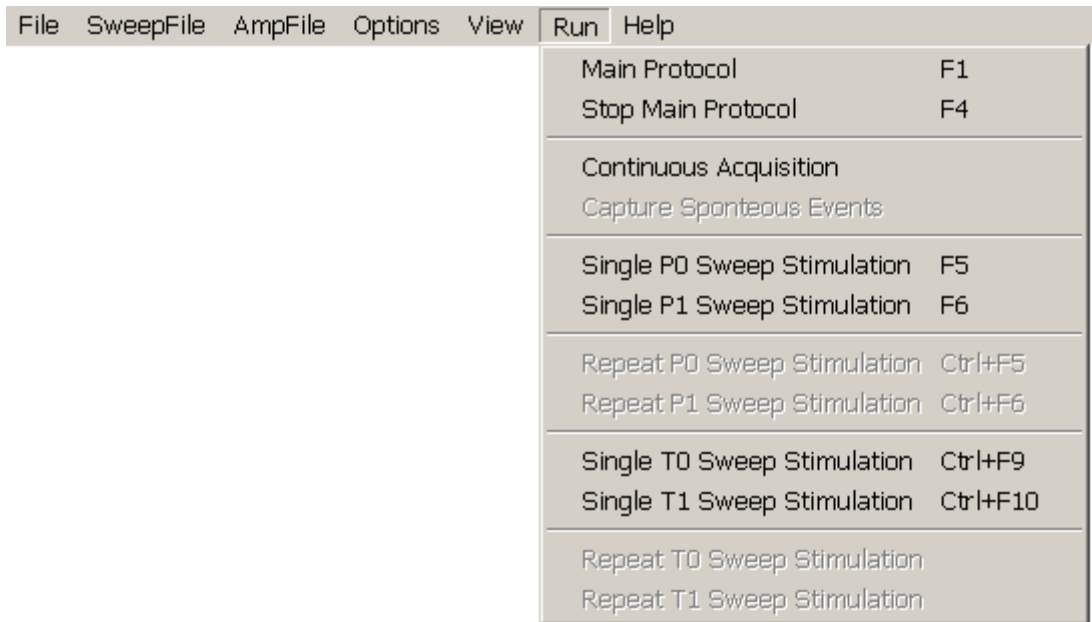

Fig. 3.2.6. Run Menu.
- 5) **R**un Menu - an alternative to running protocols by pushing function keys (Fig. 3.2.6)
Protocols can be started by either clicking a Run Button, pressing a Function Key, or by choosing the correct line in the **Run** menu (Fig. 3.2.6). The Run menu gives a description of the protocol on the left side of the line, and the shortcut Function Key that can be alternatively pressed to start that protocol.